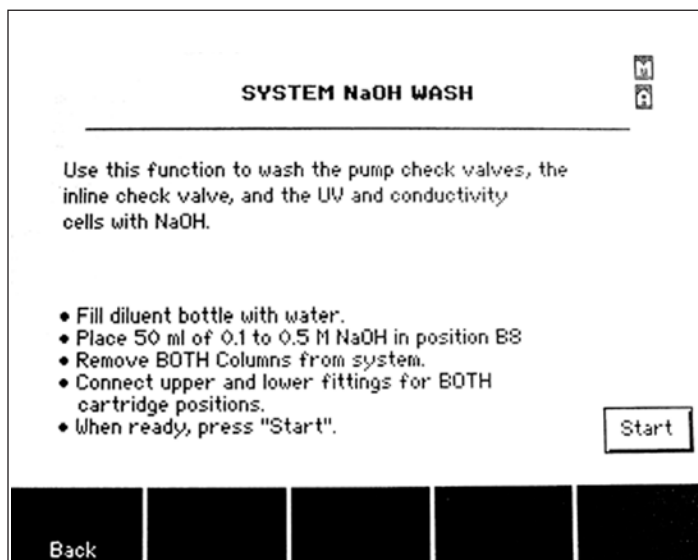

Fig. 9.14. System NaOH wash screen.
4. Follow instructions displayed on the screen (Figure 9.14).